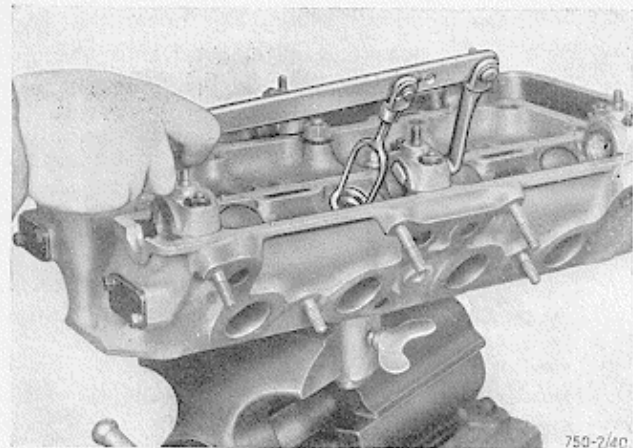

Fig. 40 - Dismantling the cotters of a valve by means of the tool 6121.15.011
- 7) Refit the cam-shaft bearing caps and, using tool 6121.15.011 (as shown in fig. 40) on each valve, lower the upper spring seat and withdraw the cotters. Should any difficulty be encountered in removing the cotters apply pressure in the direction of the valve stems.